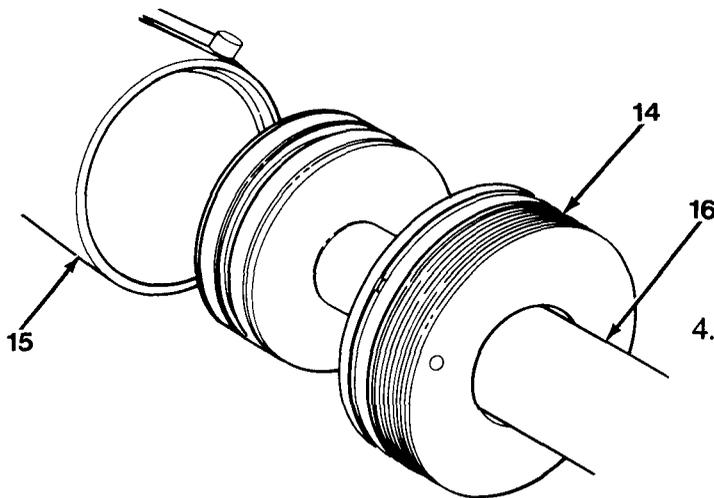

Figure 13-5
2. Using spanner wrench, unscrew gland (14) from cylinder tube (15, Figure 13-5).
3. Position suitable container under cylinder hold valve and gland areas and pull rod assembly (16) out of cylinder tube (15).